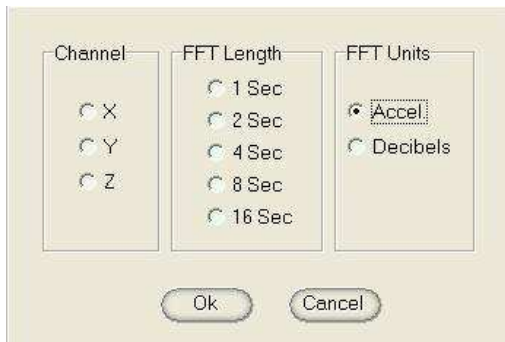

Figure 3.12 FFT setting dialogue
- G. Move mouse cursor to the “Open” push button on the right of the main interface, left click mouse, enter the directory saved data, then select the calibration file (*.zkb) to open. Once the calibration file opened, move mouse cursor to the “FFT” push button, a dialog box will be displayed on the left of the main interface shown as Figure 3.12.